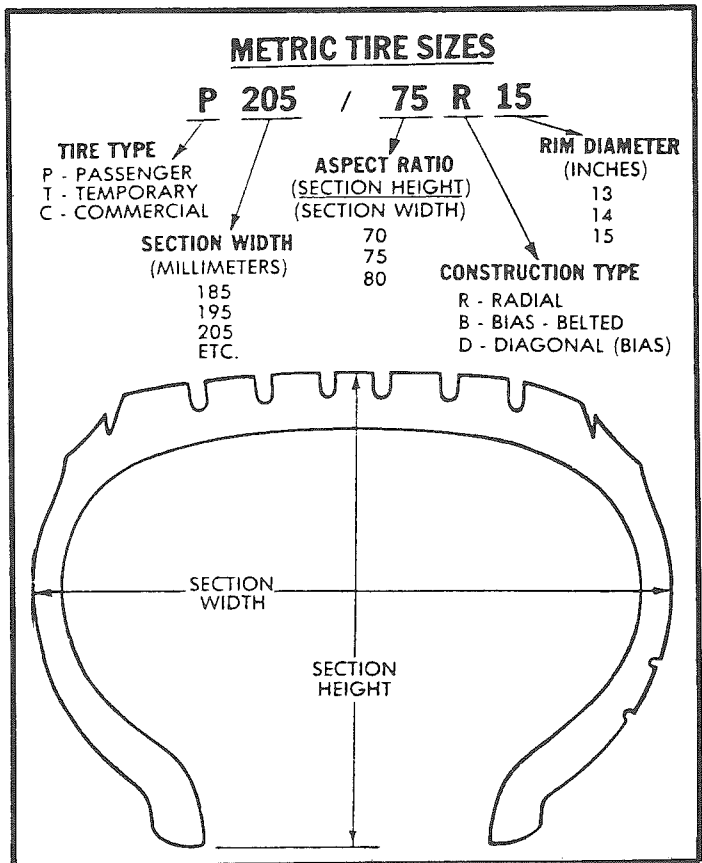

Figure 127 – Metric Tire Size Formula
1. Tires are worn to a point where 2/32 inch (1.6 millimeters) or less tread remains, or the cord or fabric is exposed. To help detect this, tires have built-in tread wear indicators (figure 127) that appear between the tread grooves when tread depth is 2/32 inch (1.6mm) or less. When the indicators appear in two or more adjacent grooves at three spots around the tire, the tire should be replaced.
The metric term for tire inflation pressure is the Kilopascal (kPa). Tire pressure will usually be printed in both kPa and psi. Metric tire gauges are available from tool suppliers. The chart (figure 127) converts commonly-used inflation pressures from kPa to psi.